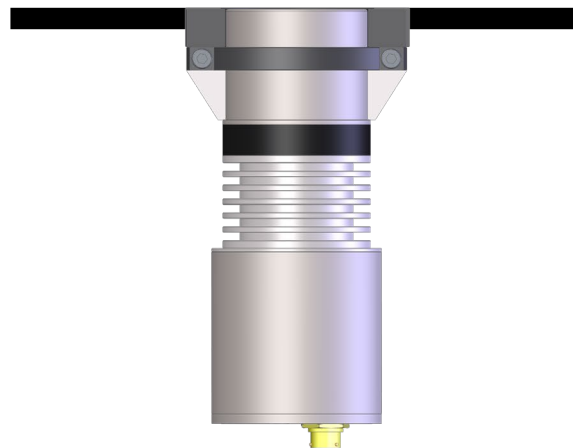

Figure 24: Flush Mounted Sensor
5. Confirm that the sensor is flush with the internal wall of the installation location (Figure 24).